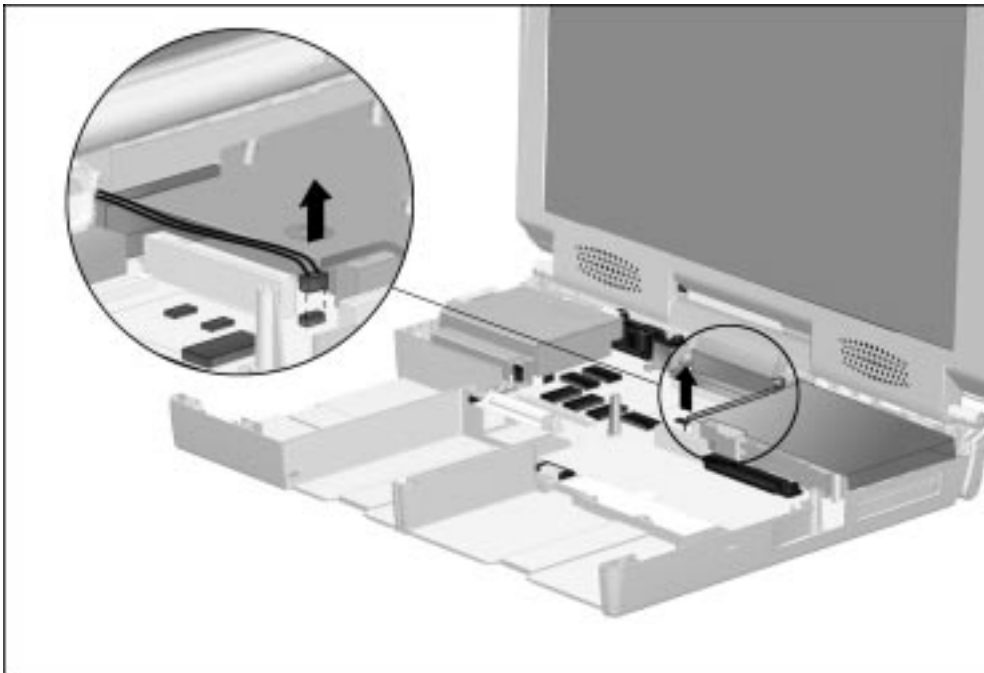

Figure 5-49. *Disconnecting the Auxiliary Battery Cable*
11. Disconnect the auxiliary battery cable from the system board (Figure 5-49).